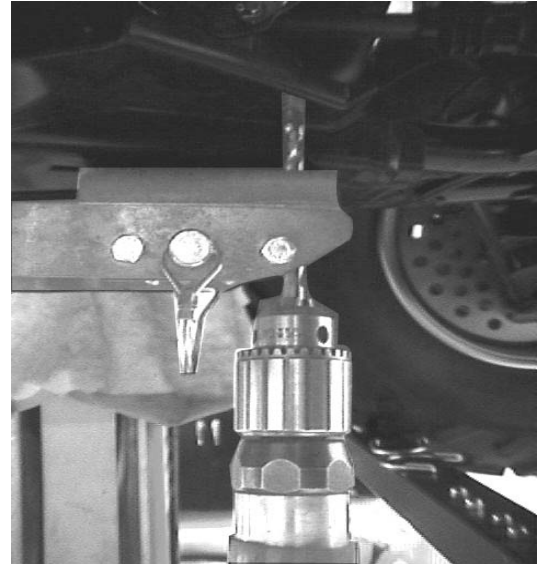

Figure 3
- Using the existing crossmember holes as locators, drill through all four crossmember holes with a 5/16" drill bit as shown in figure 3. Drill only through the skidplate and nothing else on the bike. The plow mounting pins can now be removed and stored.